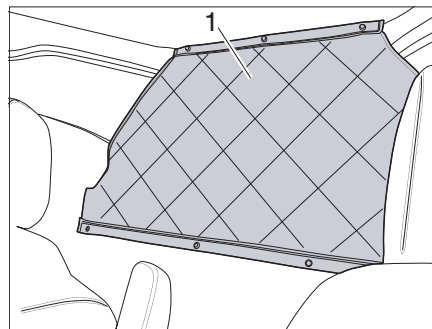

Fig. 23 Unrolling the entrance cover
- Unroll the entrance cover (Fig. 23,1).
- Close the entrance cover (Fig. 23,1) with snap fasteners.